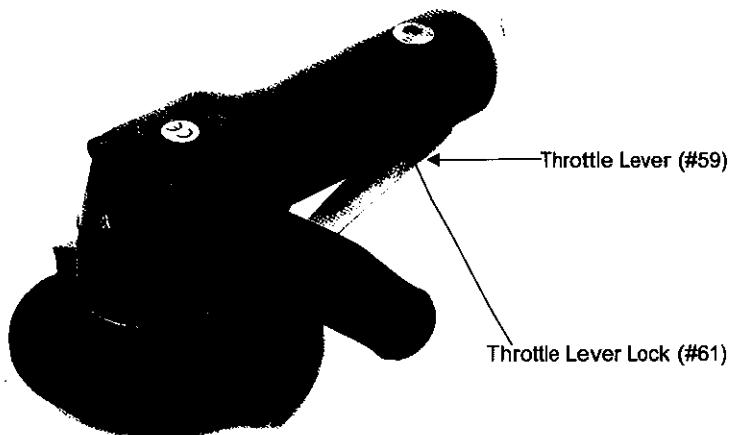

Figure 6 — Operating the Angle Grinder
Step 6: To operate the Angle Grinder, press the **THROTTLE LEVER LOCK (#61)** forward while depressing the **THROTTLE LEVER (#59)** as shown in-Figure 6.